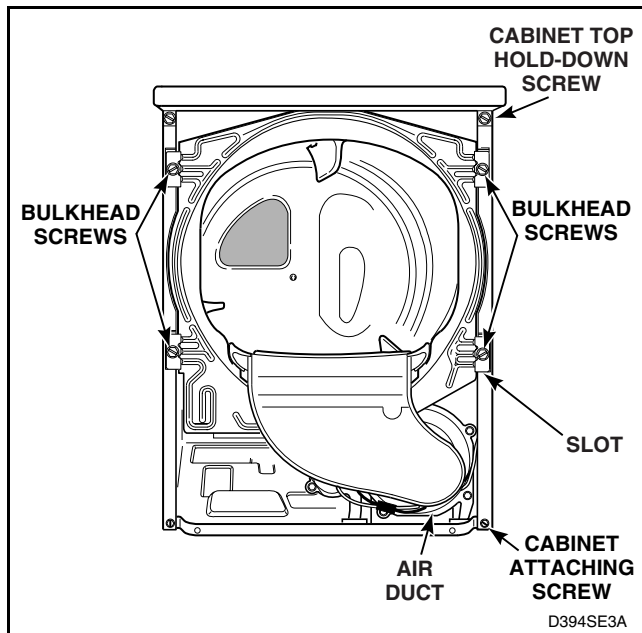

Figure 27
- Remove four screws holding bulkhead to front flange of cabinet and lift complete bulkhead and assembly out of slots in cabinet. Refer to *Figure 27*.
- f. Remove four screws holding bulkhead to front flange of cabinet. Then, lift complete bulkhead assembly out of slots in cabinet. Refer to *Figure 27*.
- f. Remove four screws holding bulkhead to front flange of cabinet. Then lift complete bulkhead and air duct assembly out of slots in cabinet. Refer to *Figure 27*.
- g. Remove two cabinet top hold-down screws. Refer to *Figure 27*.
- Remove four screws holding bulkhead to front flange of cabinet. Then lift complete bulkhead assembly out of slots in cabinet. Refer to *Figure 27*.